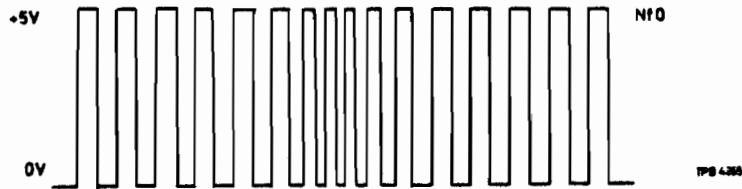

Fig. 8 Nf0 output.
37. When the transfer oscillator locks to an input signal, the Nf0 output is a +5 V square wave of frequency  $N \times 3.90625$  kHz. A small amount of incidental fm is present and the waveform as shown in Fig. 8, is best observed in synchronization with the Ø1 or Ø2 input signal.